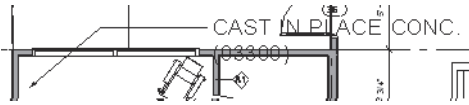

Figure 10.37
**Background** This gives you the option to have a background for your text box that is either opaque or transparent. Opaque creates a white box (blotting out the model behind it, as shown in Figure 10.36). Transparent leaves the text box clear and lets you see the model data behind the text (Figure 10.37).